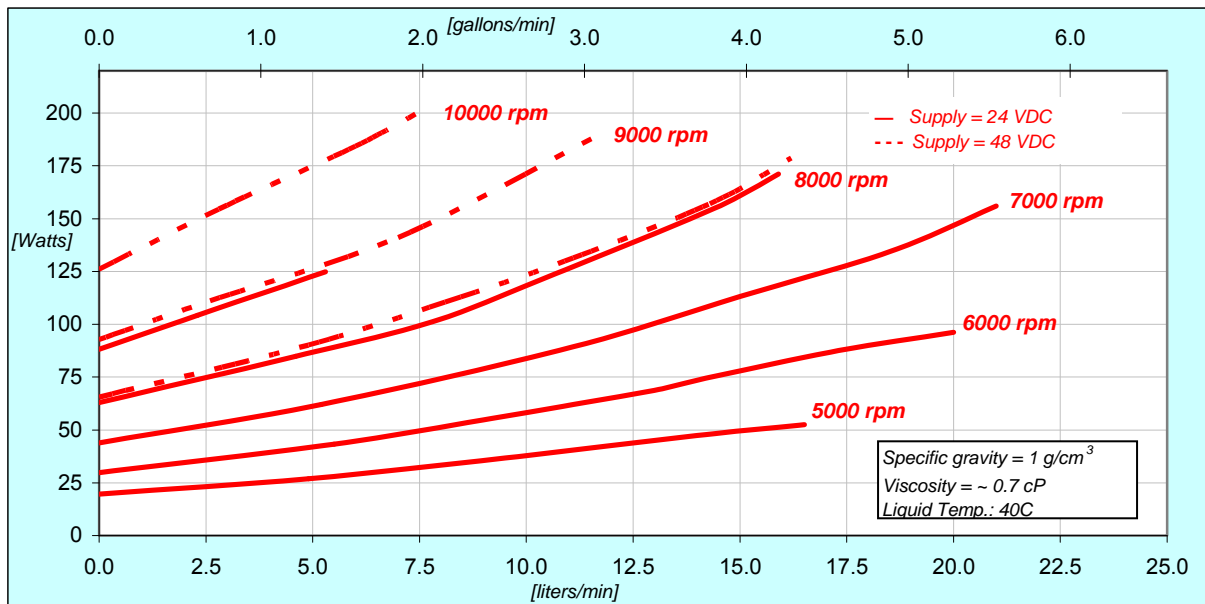

Figure 8: Electrical power consumption
4. Depending on the required hydraulic operational point (see *Figure 4*), the pump system requires 24V or 48 DC supply voltage at a maximum power of 200 W. At a lower performance power supplies with smaller power or bigger supplies to supply several pump systems simultaneously may be used. Consult *Figure 8* to get the power consumption depending on the flow. Contact Levitronix for consulting and support on the power supply solution.